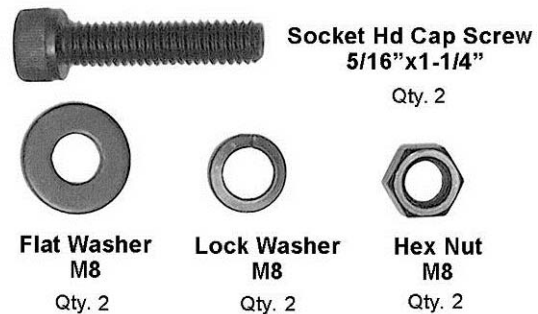

Figure 2
- 1 Hardware Package (JPSR-RHP) – Figure 2
* located inside Guide Tube (E)